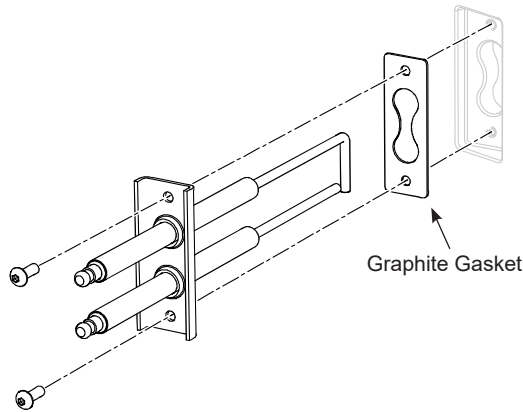

Figure 23: Igniter Electrode Assembly
- Install igniter electrode in the orientation shown in Figure 23; otherwise, the unit will not light.